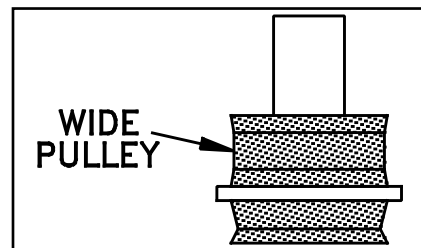
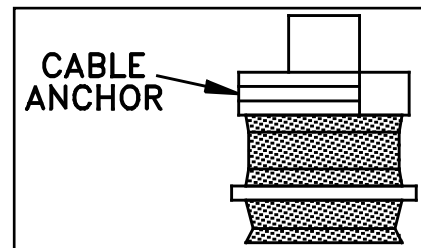

Figure 16
Figure 17
6. Set the wide pulley on top of the pulley divider. It is symmetrical so it can be put on either way. (Figure 16) Set the cable anchor on top of the wide pulley with the groove facing you and the notch out of the corner to your right. (Figure 17)